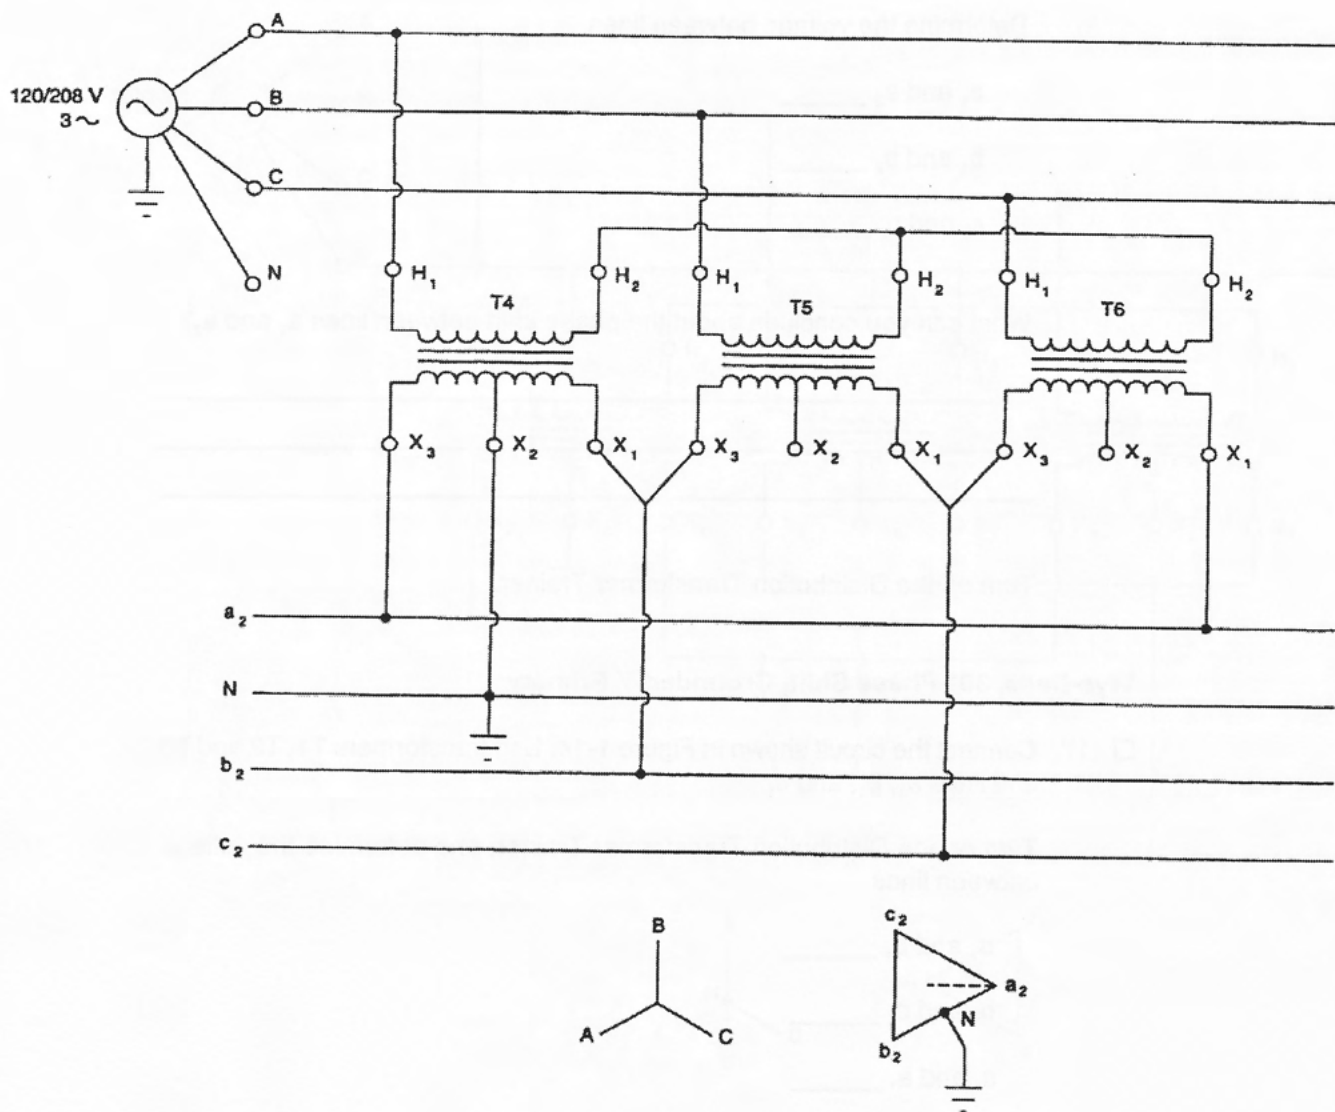

Figure 1-13. Wye-delta, 210° phase shift.
- 16. Connect the circuit shown in Figure 1-13. Use transformers T4, T5 and T6 and lines a_2 , b_2 , and c_2 .